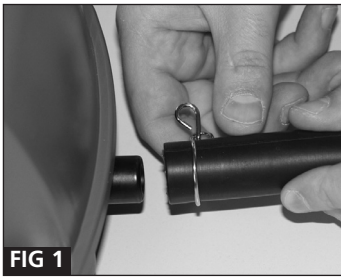

FIG 1
- Push the rubber outlet pipe over the outlet of the air pump and fasten in place using the metal clip provided to hold it firmly in place (See Fig 1).